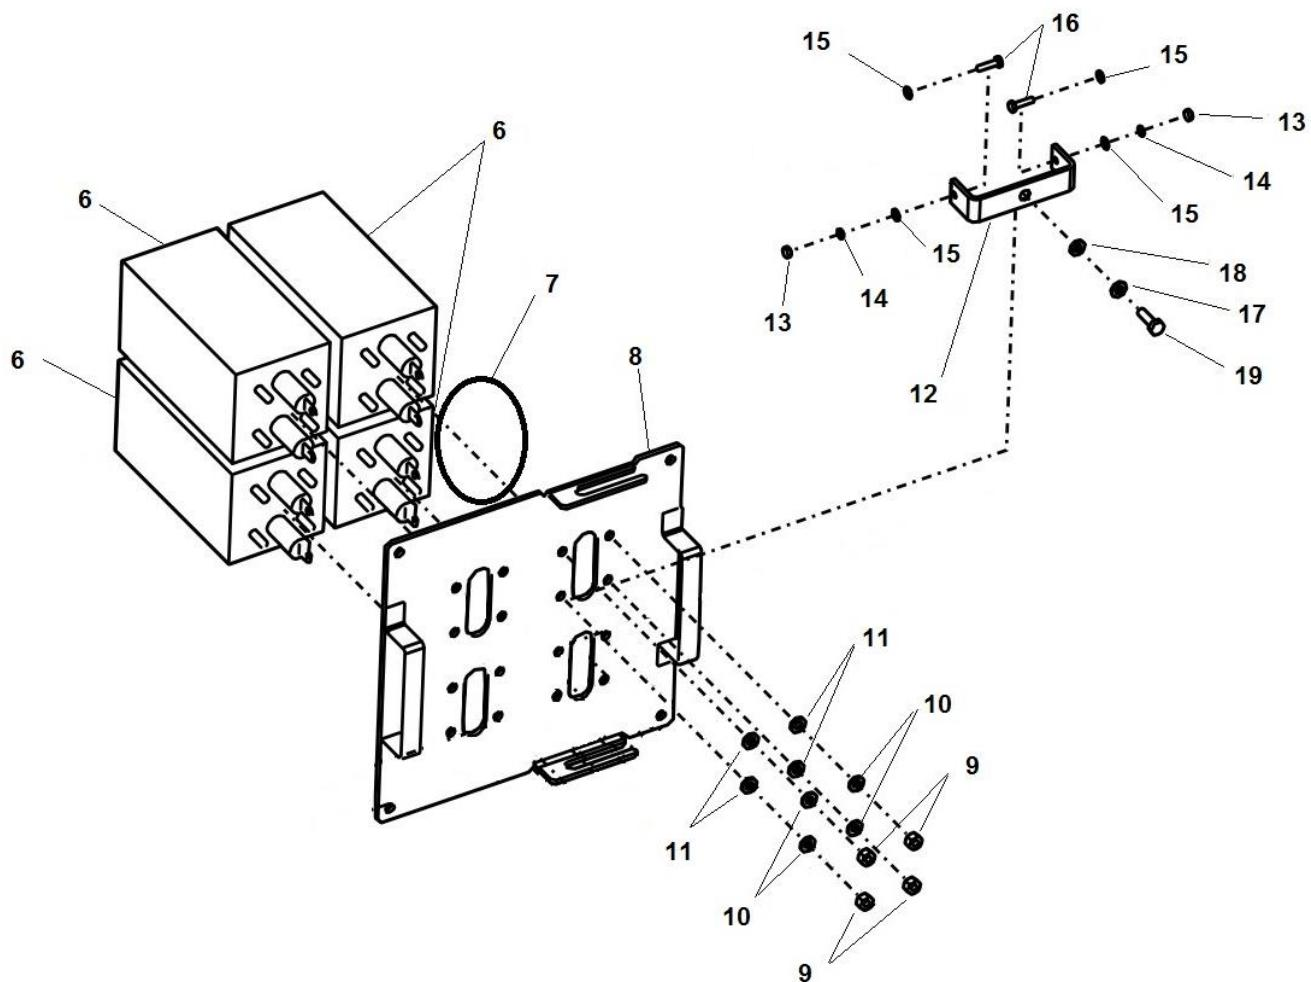

Figure 5-26: Discharge Resistor Single Resistor Replacement
1. The Discharge Resistor consists of 4 resistors in the DCHR Unit. To replace any single resistor element, follow these steps and refer to Figure 5-26. First, loosen and remove M4 bolts and nuts holding the bus bar (12) to the resistor.